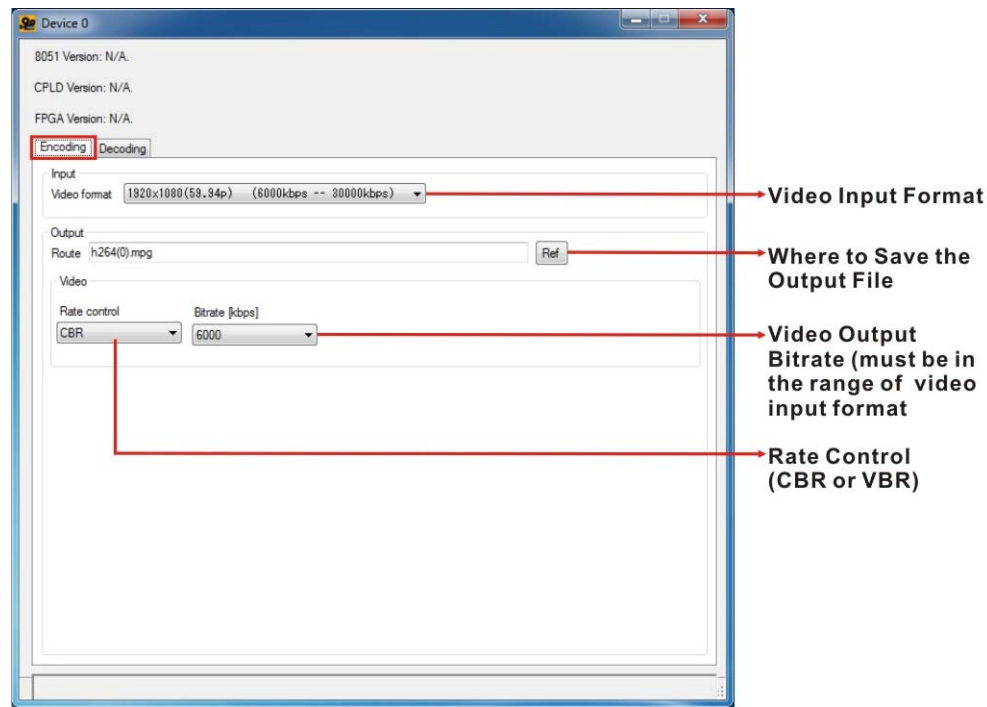

Figure 2-2: Encoding Settings
Step 3: The Encoding window appears (**Figure 2-2**). Choose the video input format.
Step 4: Configure the encoding settings (**Figure 2-2**), including encoding file directory (click Ref button to choose the directory), rate control (CBR or VBR) and video encoding bitrate (must be in the range of video format). When “CBR” is selected, the “Bitrate” text box is displayed. When “VBR” is selected, the “Average bitrate”